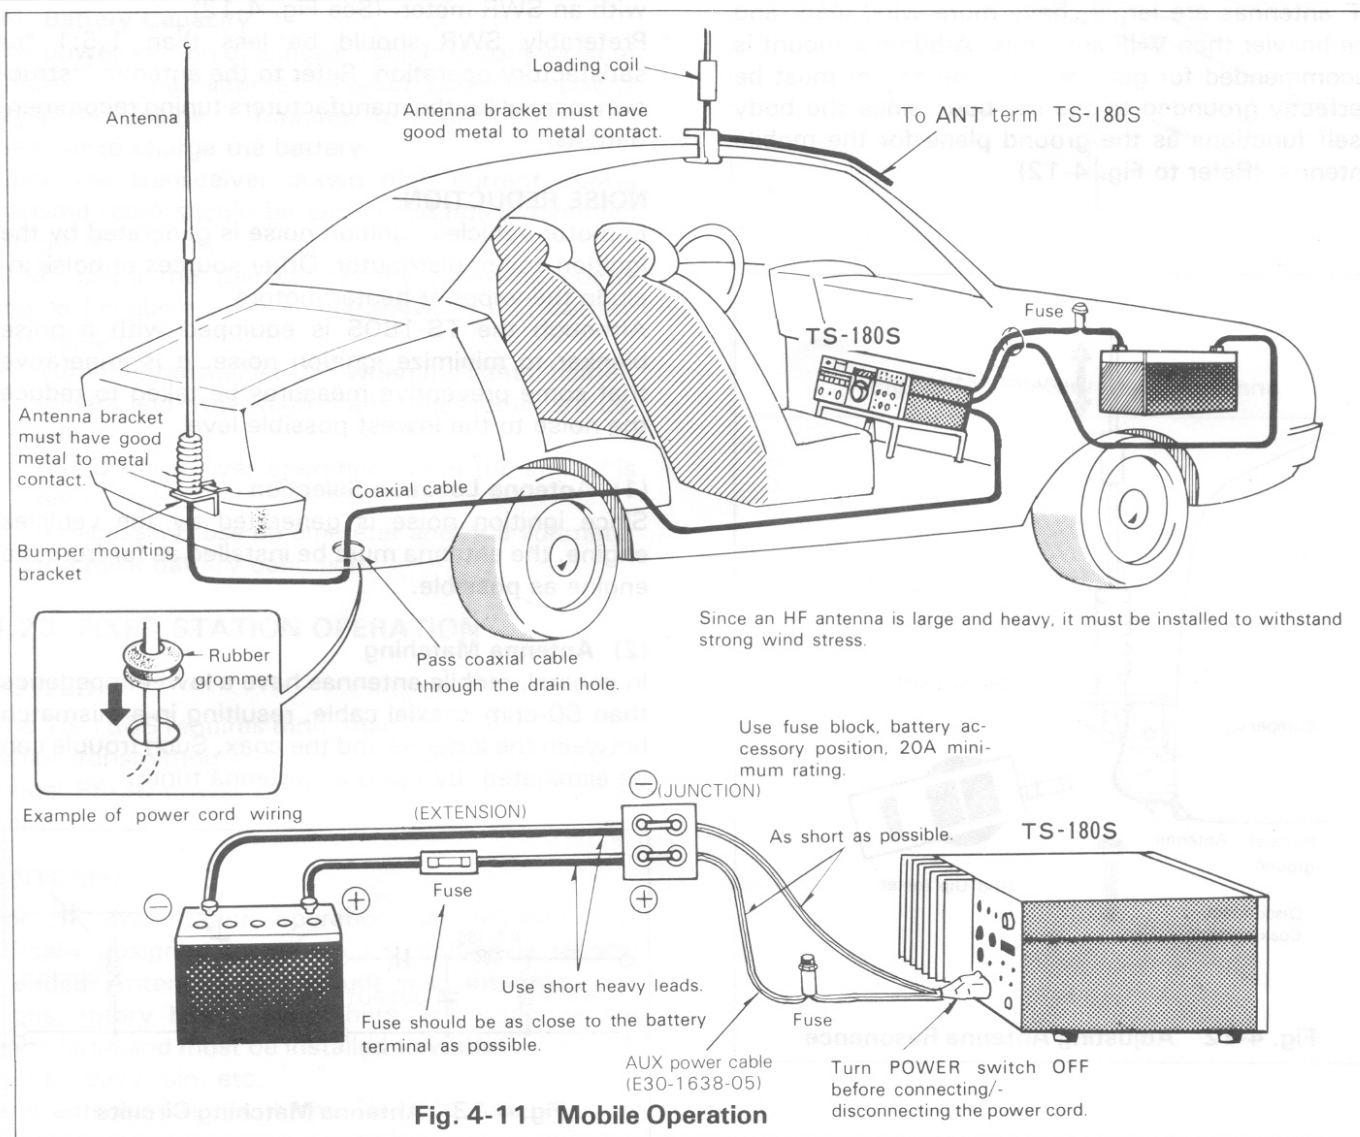

Fig. 4-11 Mobile Operation
4.22 MOBILE OPERATION (Fig. 4-11)
(2) Coaxial Cable Connection (Fig. 4-11)